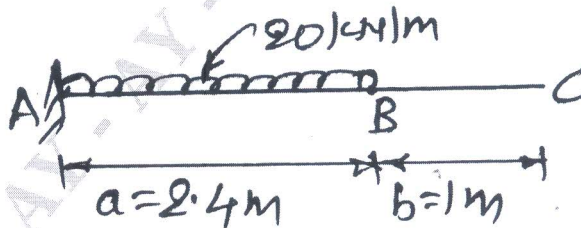

Fig Q3(c)
c. For the cantilever beam shown in Fig Q3(c), compute the slope and deflection at the free end. Take $EI = 4 \times 10^{12} \text{ Nmm}^2$. Use Macaulay's method.